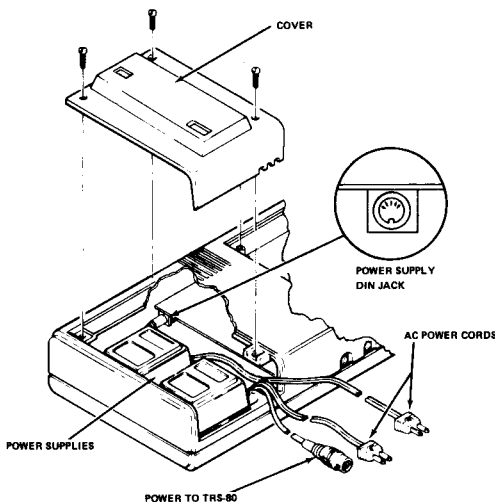

Figure 1. Power Supply installation.
2. Remove the three phillips-head screws from the Power Supply Compartment cover (see Figure 1).
4. Place the Expansion Interface Power Supply inside the Compartment as shown in Figure 1.